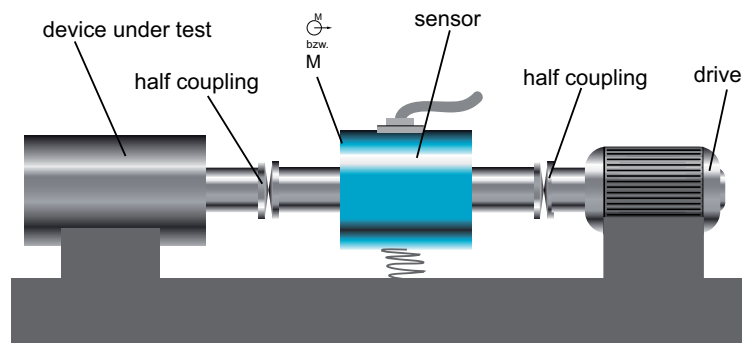

Figure 5: This is the only way to correct a radial misalignment using half couplings.
- Therefore, always install the sensor between two half couplings (refer to Figure 5:).